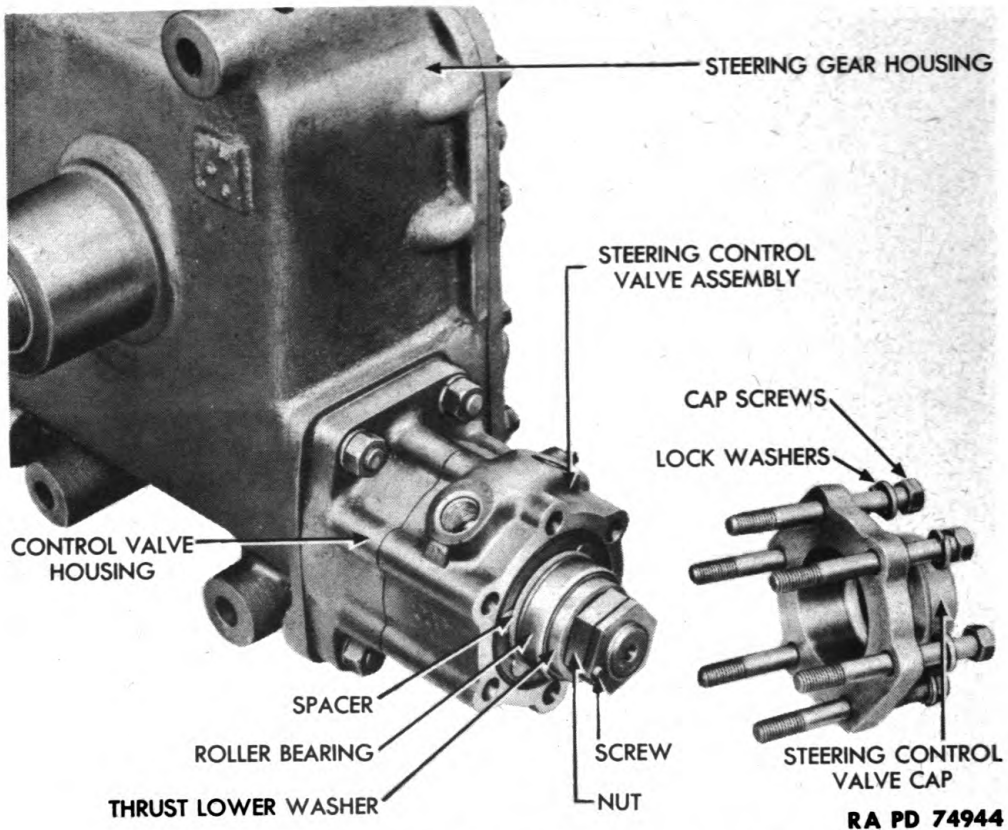

Figure 6 — Steering Control Valve — Installed
10. DESCRIPTION AND DATA (figs. 6 and 7).
a. **Remove Steering Control Valve** (figs. 6 and 7). Remove cap screws and lock washers that hold steering control valve cap on steering valve housing and remove cap. Remove screw from steering control valve cap nut. Then remove nut, camshaft valve lower thrust washers, control valve roller bearing, and spacer from worm shaft. Pull steering control valve assembly off steering gear, and remove remaining roller bearing and camshaft valve upper washer.
b. **Install Steering Control Valve** (figs. 6 and 7). Install steering control valve assembly on steering gear, then install spacer, control valve thrust roller bearing, camshaft valve thrust lower washer, and nut on worm shaft. Install steering control valve cap nut on worm shaft, and install valve fillister head screw. Install steering control valve cap on steering control valve housing, and fasten with cap screws and lock washers.